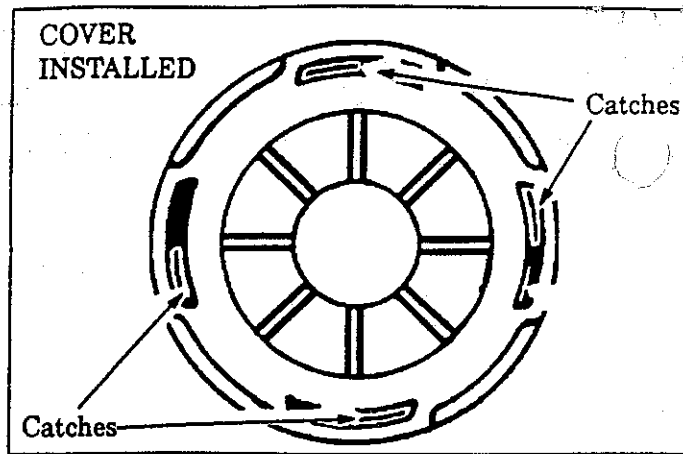

Figure 19
- i. Check to make sure all four Catches and the Lock Tab are properly fastened as shown in Figure 19, then test the Cover by trying to turn it counterclockwise.